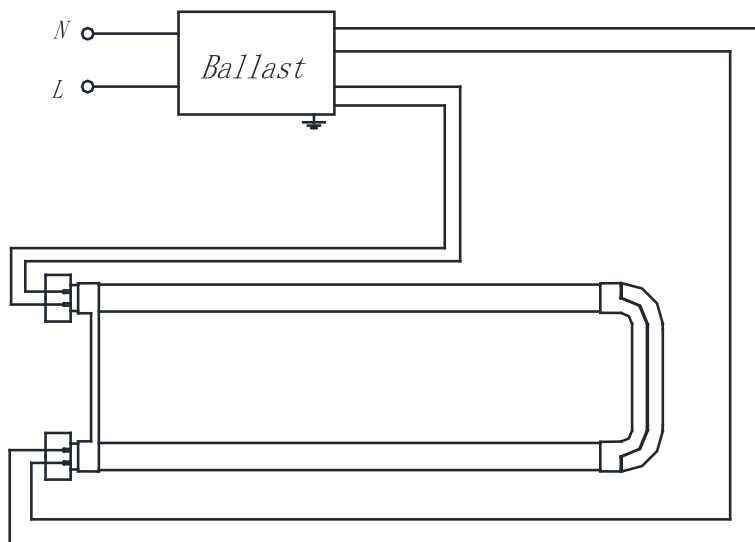

Fig.1
STEP 3: Check if the LED tubes rating parameters can be replaced in this luminaire, below is the original wiring drawing, shown as below Fig.1